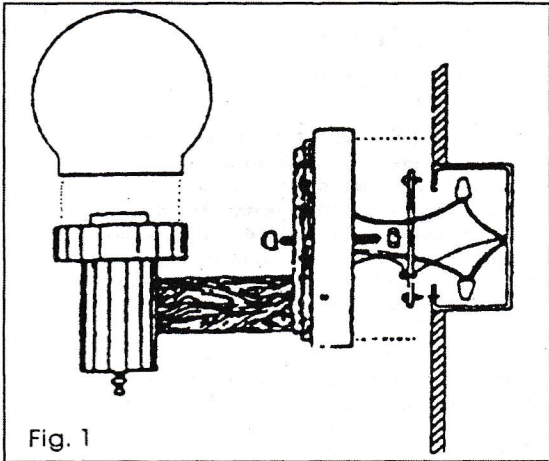
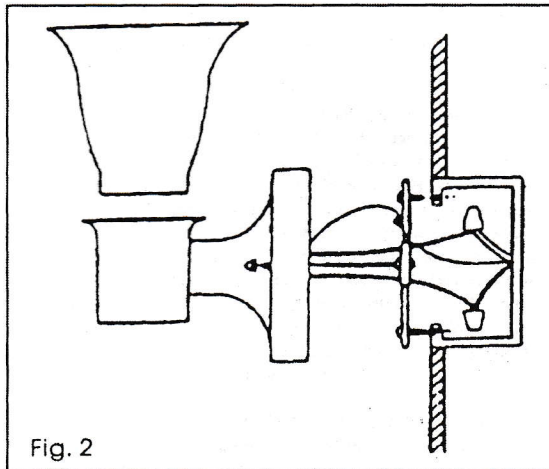

Fig. 1
Fig. 2
2. Some fixtures are provided with a threaded nipple (see Fig. 1 and Fig. 5) or machine screws (see Fig. 2 and 2A) for attaching the fixture to the mounting bracket. If your fixture is supplied with a threaded nipple screw, the nipple completely turns into the mounting bracket and locks into place with a hexagon lock nut. If your fixture is supplied with machine screw, thread the machine